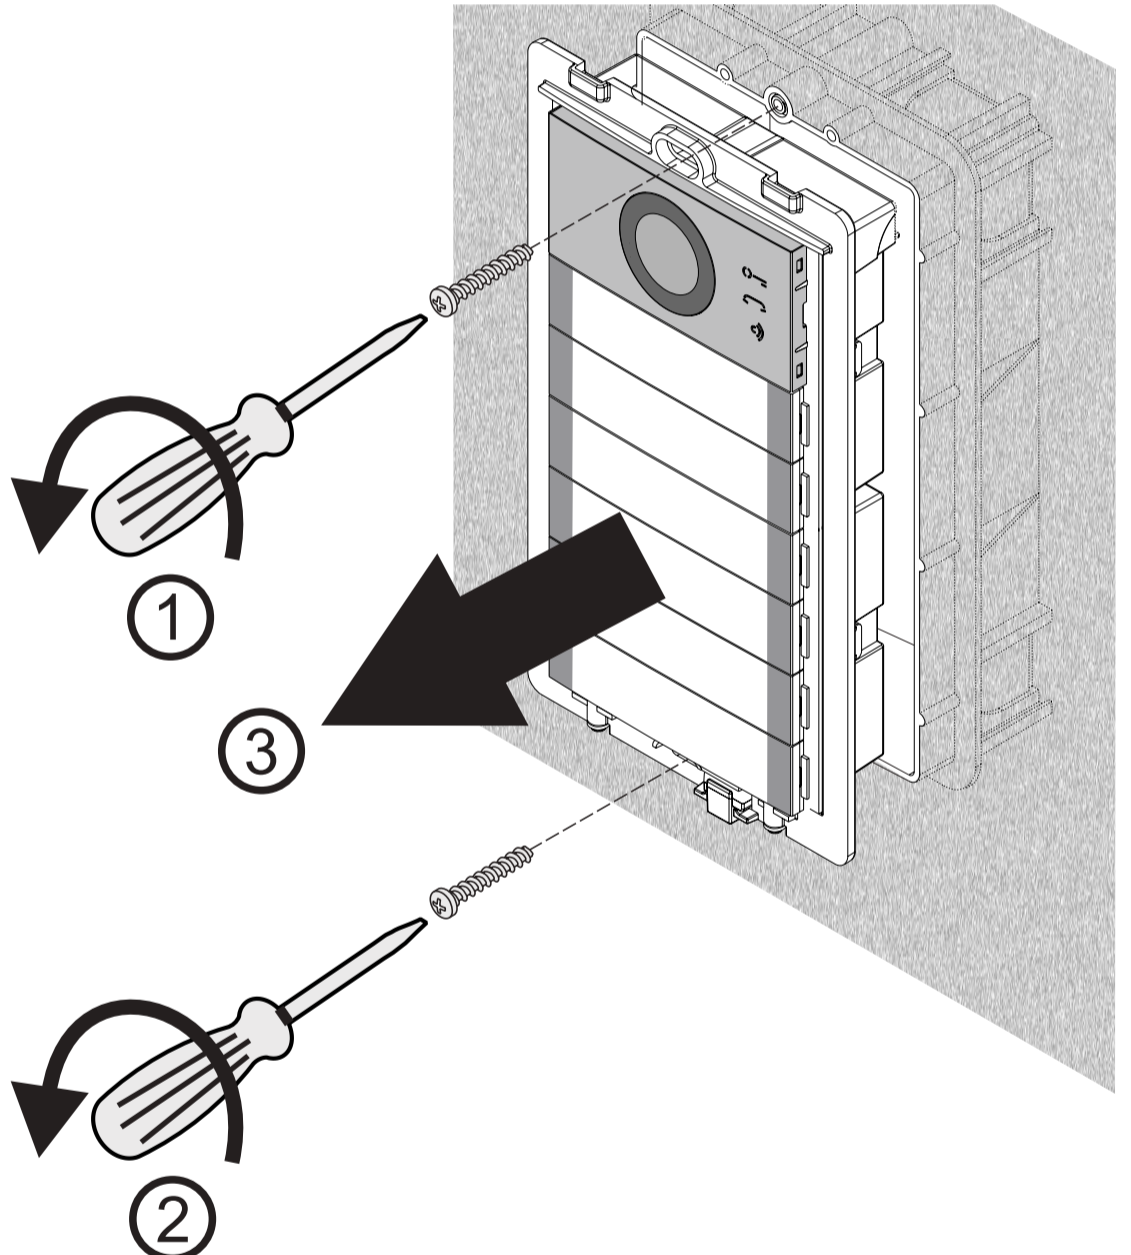

Fig. 9
- Unscrew the frame from the box (figure 9).